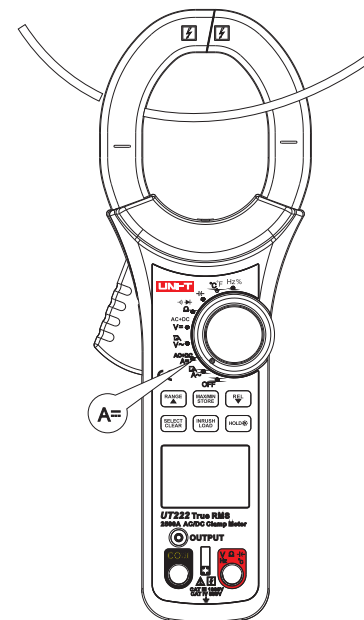

Figure 12
9. DC current measurement (See Figure 12)